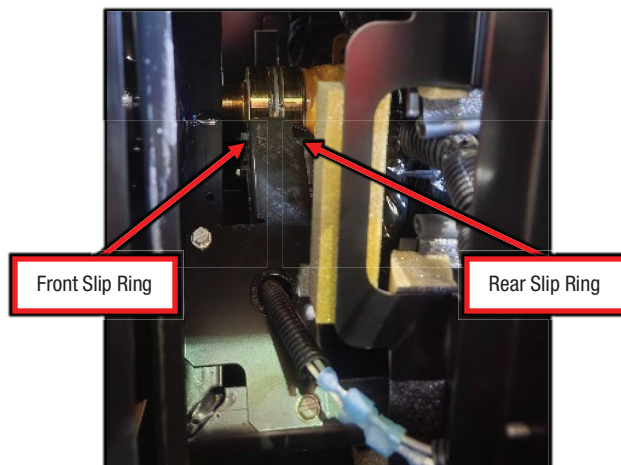

Figure F.3
A.3. Perform the static measurements in Test Table 1, refer to Figure F.3 for test point locations. NOTE: MEASUREMENTS ARE MADE ON THE SLIP RINGS WITH LEADS 200C AND 201B REMOVED.